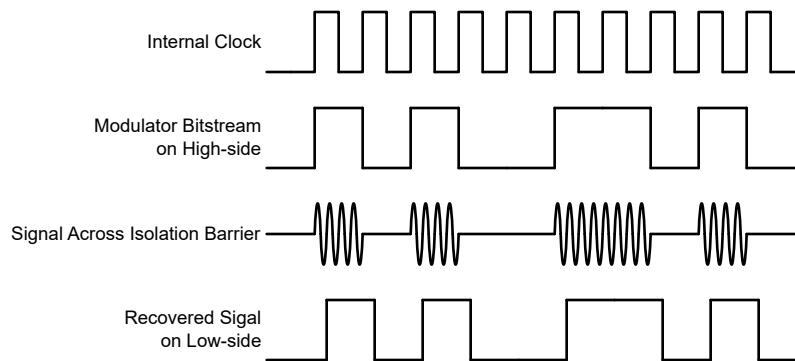

Figure 7-4. OOK-Based Modulation Scheme
As shown in Figure 7-4, the AMC0x03M2510 uses an on-off keying (OOK) modulation scheme to transmit the modulator output bitstream across the SiO_2 -based isolation barrier. The transmit driver (TX) is illustrated in the Functional Block Diagram. TX transmits an internally generated, high-frequency carrier across the isolation barrier to represent a digital one. However, TX does not send a signal to represent a digital zero. The nominal frequency of the carrier used inside the AMC0x03M2510 is 480MHz.